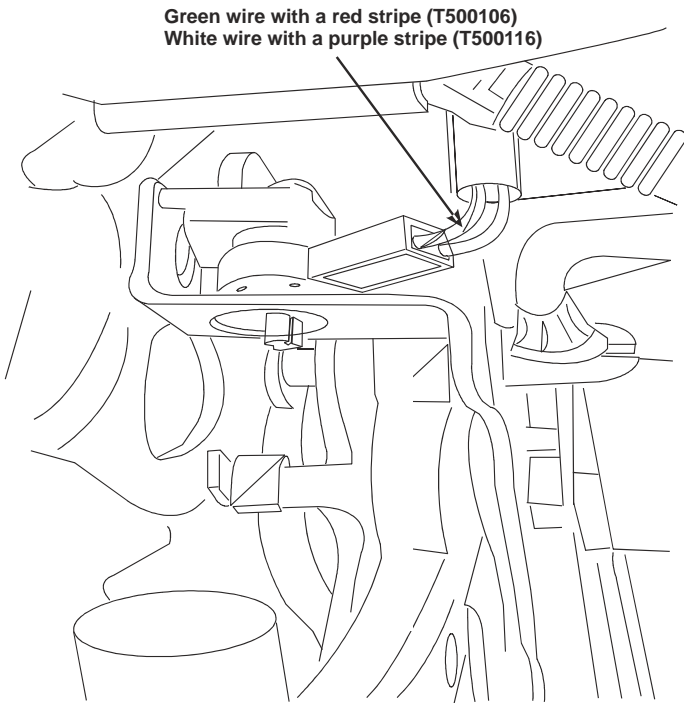

Figure 4
- Solder and seal the black wire from the throttle control box to the green with red stripe wire at the park brake (Figure 4).
- Solder and seal the black wire from the throttle control box to the white wire with purple stripe at the park brake (figure4)